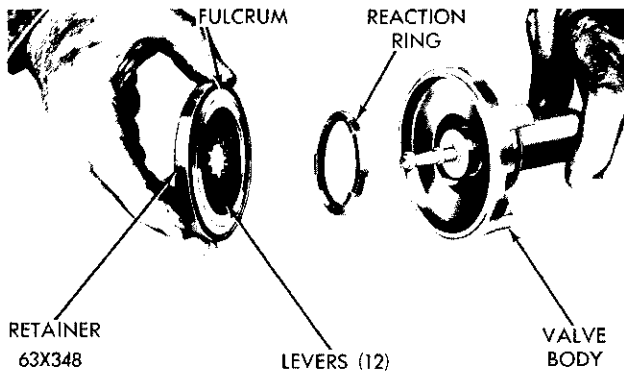
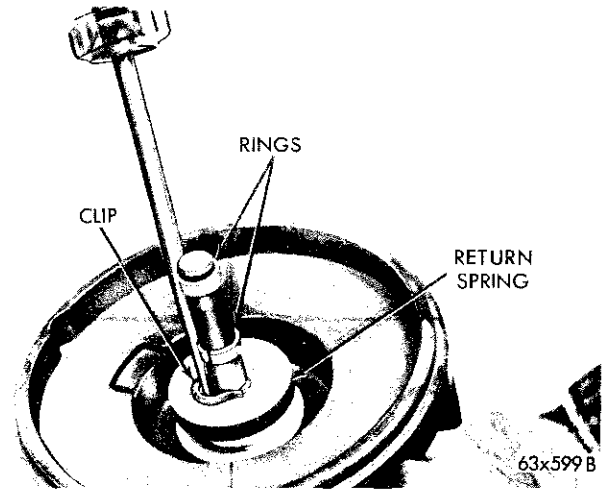
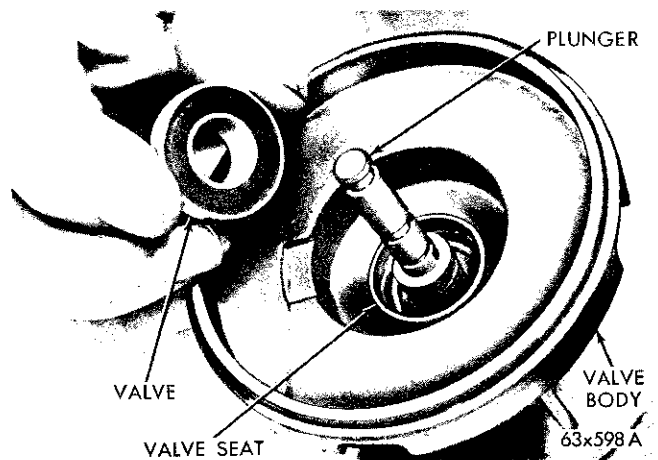
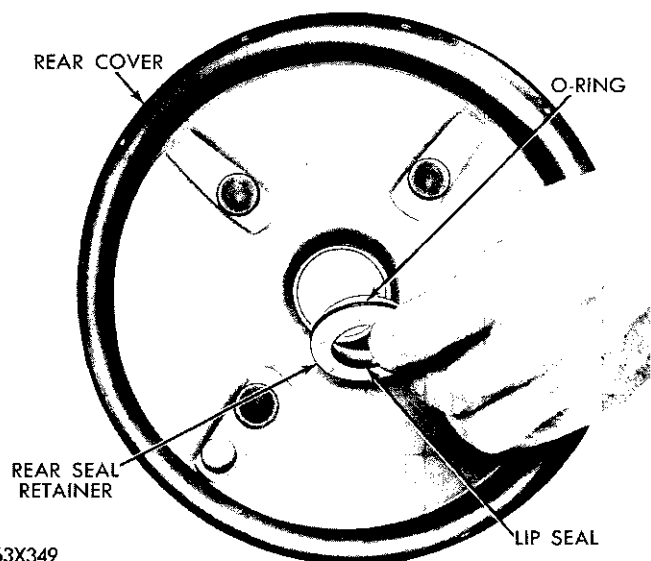

Fig. 39—Valve Body and Reaction Levers
Fig. 40—Removing Valve Retainer
Fig. 41—Removing or Installing Valve
Fig. 42—Rear Seal Assembly
(12) Remove the reaction lever reaction ring and retainer assembly from the valve body and remove the levers from the retainer (Fig. 39).
(13) Remove the two plastic rings from the plunger shaft.
(14) Remove the retaining clip (Fig. 40) from the plunger shaft, remove the load ring and valve return spring. Remove the valve (Fig. 41).
(15) Remove the plunger from the valve body.
(16) Remove the plastic rear seal retainer from the plunger (Fig. 42) **The plunger assembly will be serviced as a unit and need not be dismantled further.**
(17) Using a small screw driver remove the rear seal from the rear seal retainer. Remove the "O" ring from the outer diameter of the seal retainer (Fig. 42).
(6) Holding the seal retainer in place invert the cover over a large socket to support the seal retainer in place.
(7) Apply downward pressure on the rear cover and install the retainer ring.
(8) Install plunger assembly into valve body.
(9) Install the valve into the valve body with the rubber insert contacting the valve seat. Install the valve return spring over the valve.
(10) Install load ring on plunger, concave face out.
(11) Press downward on the valve body and insert the spring clip into the groove of the plunger.
(12) Install the reaction ring with the three raised portions toward the reaction levers, (Fig. 39).
(13) Install the levers and fulcrum ring into the rubber retainer.
(14) Align the indexing tab with the notch in the valve body and insert the assembly into the valve body with the fulcrum ring on the underside.
(15) Install two plastic rings on plunger shaft.
(16) Install the master cylinder push rod onto the plunger assembly.
(17) Install the bellows into the bellows retainer and install the retaining ring onto the bellows.
(18) Place the valve body assembly into the detents of the diaphragm and install the bellows and retainer assembly.
(19) Install the bellows retainer snap ring.
(20) Install the diaphragm and valve assembly into the rear cover.
(21) Align the scribe marks and place the front cover over the bellows and master cylinder push rod.
(22) Align and squeeze the cover and housing together, install clamp band and tighten clamp bolt.